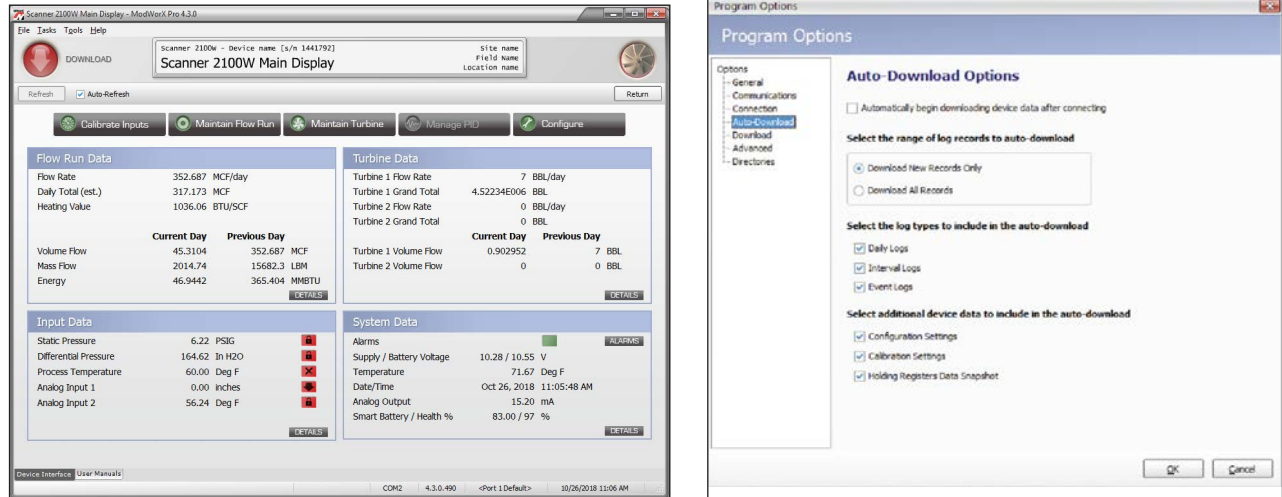

Figure A.21
1. Click **Tools>Options** in the task bar (Figure A.21, page A-15).